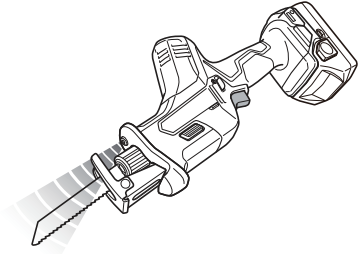

Fig. 27
6. LED light warning signals (Fig. 27)